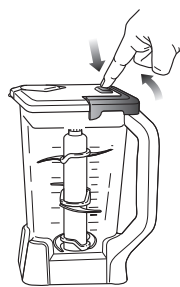

Fig. 10
- 16 For thicker consistencies, first remove the lid by pressing the release button and pulling the lid handle up to a 90 degree angle to lift lid off the pitcher. Then, carefully remove the Stacked Blade Assembly by the top of the shaft. Place Stacked Blade Assembly away from the work area to avoid accidental contact. Finally, empty contents from the pitcher. (Fig. 10)